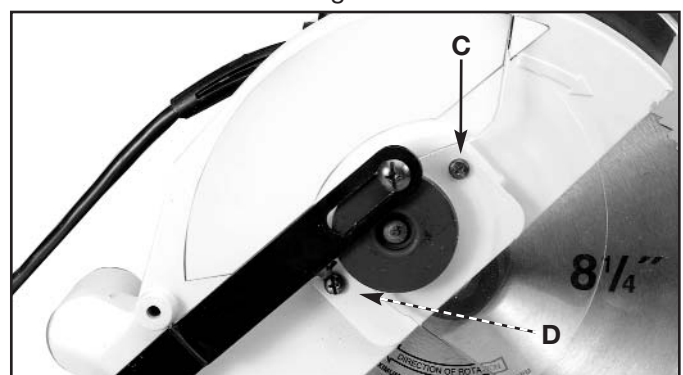

Fig. 7
3. Replace screw (C) Fig. 7 that was removed in **STEP 2**. Tighten screws (D) and (C).